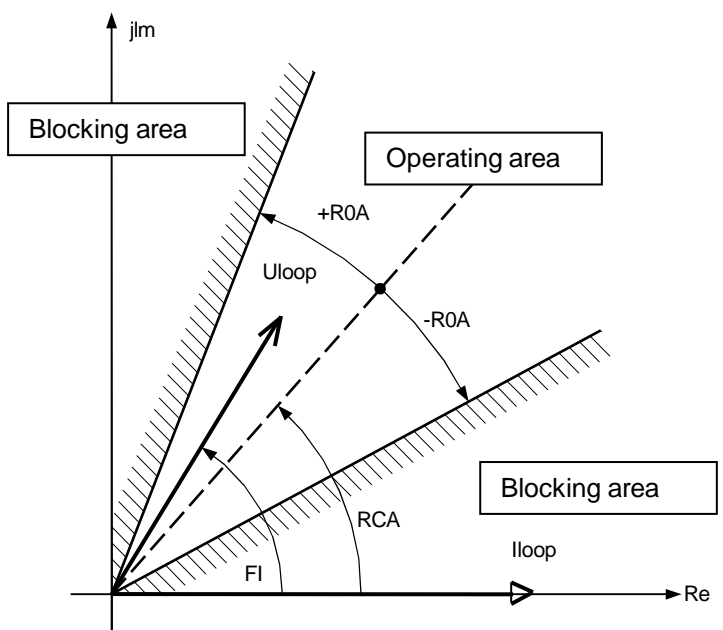

Figure 1-4 The directional decision
*Figure 1-4* below shows that the considered voltages are „loop” voltages and the considered currents are „loop” currents. The indicated operating range is valid if the “Direction” parameter is set “Forward”. If the direction parameter is set “Backward” then the operation range is mirrored to the origin of *Figure 1-4*. The setting “NonDir” for this parameter means that only the magnitude of the current is considered, the phase angles are neglected.